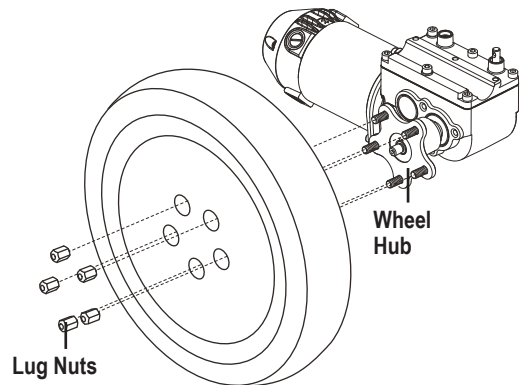

Figure 26. J4 Drive Wheel
4. Remove the five (5) lug nuts from the wheel hub. **See figure 26.**